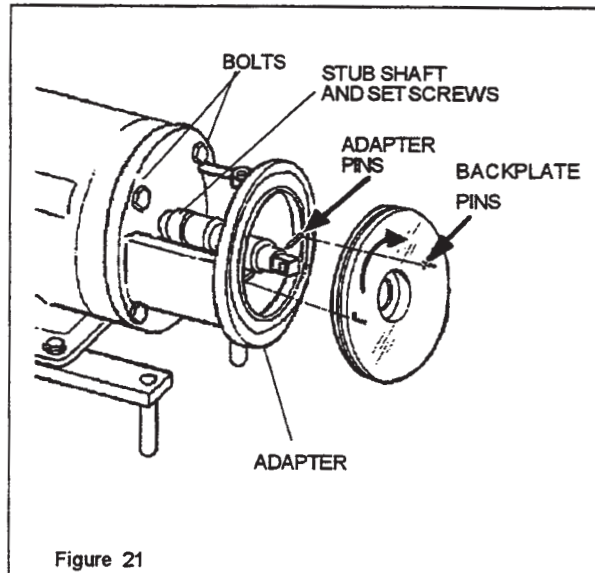

Figure 21
1. Mount the adapter to the motor with the drain cavity at the bottom. Insert the four bolts to secure the adapter to the motor. (Figure 21)
4. Install the backplate on the adapter and rotate until the backplate pins engage the adapter pins, assuring solid contact of the backplate to the adapter. (Figure 21)